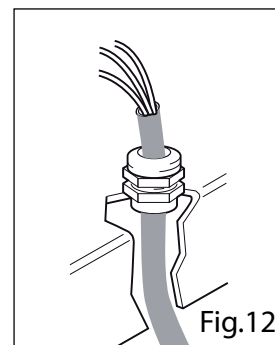

Fig.12
- The H07RN-F model cable must be introduced into the appliance through the cable clamp cut to size and secured to the cable clamp (Fig. 12).